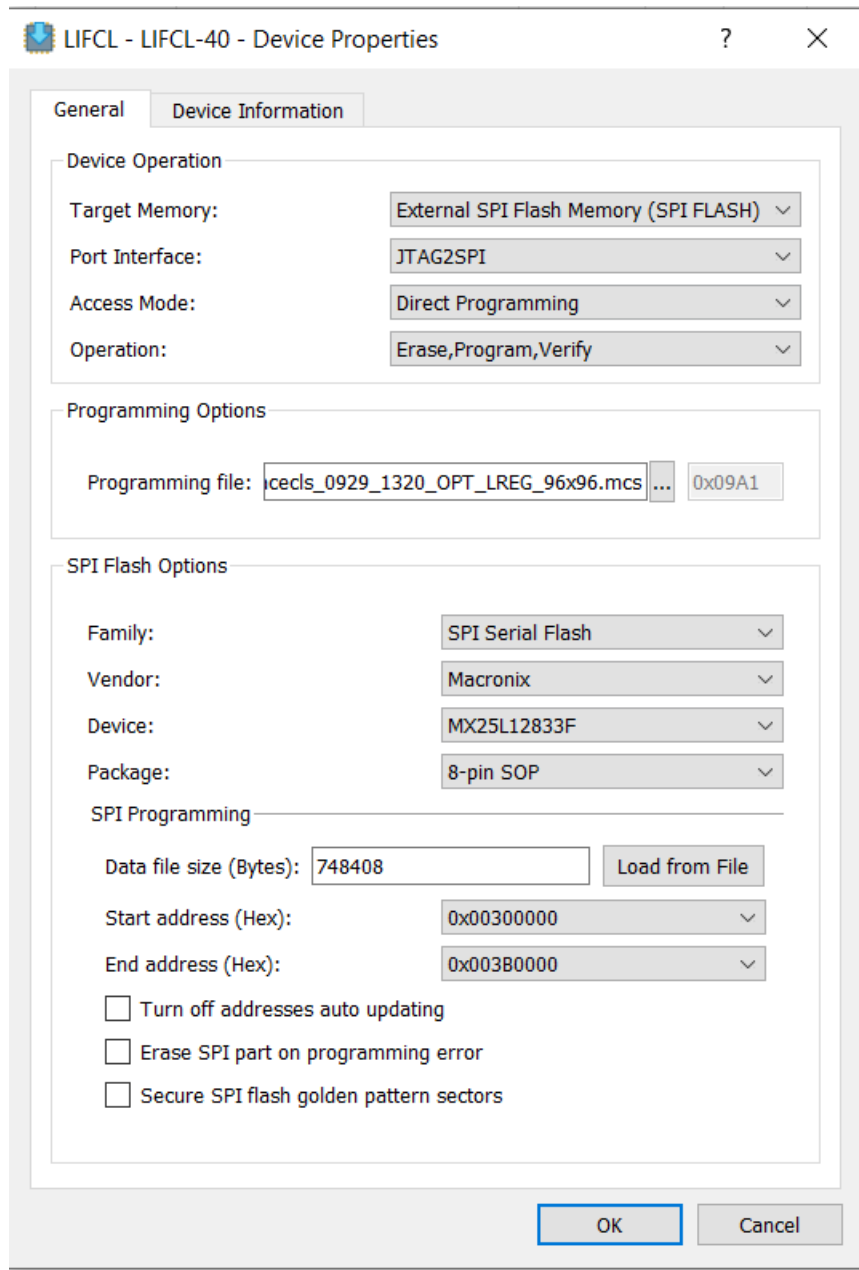

**Figure 4.9. Radiant Programmer – Output Console**
7. After successful programming, the Output console displays the result, as shown in Figure 4.9.